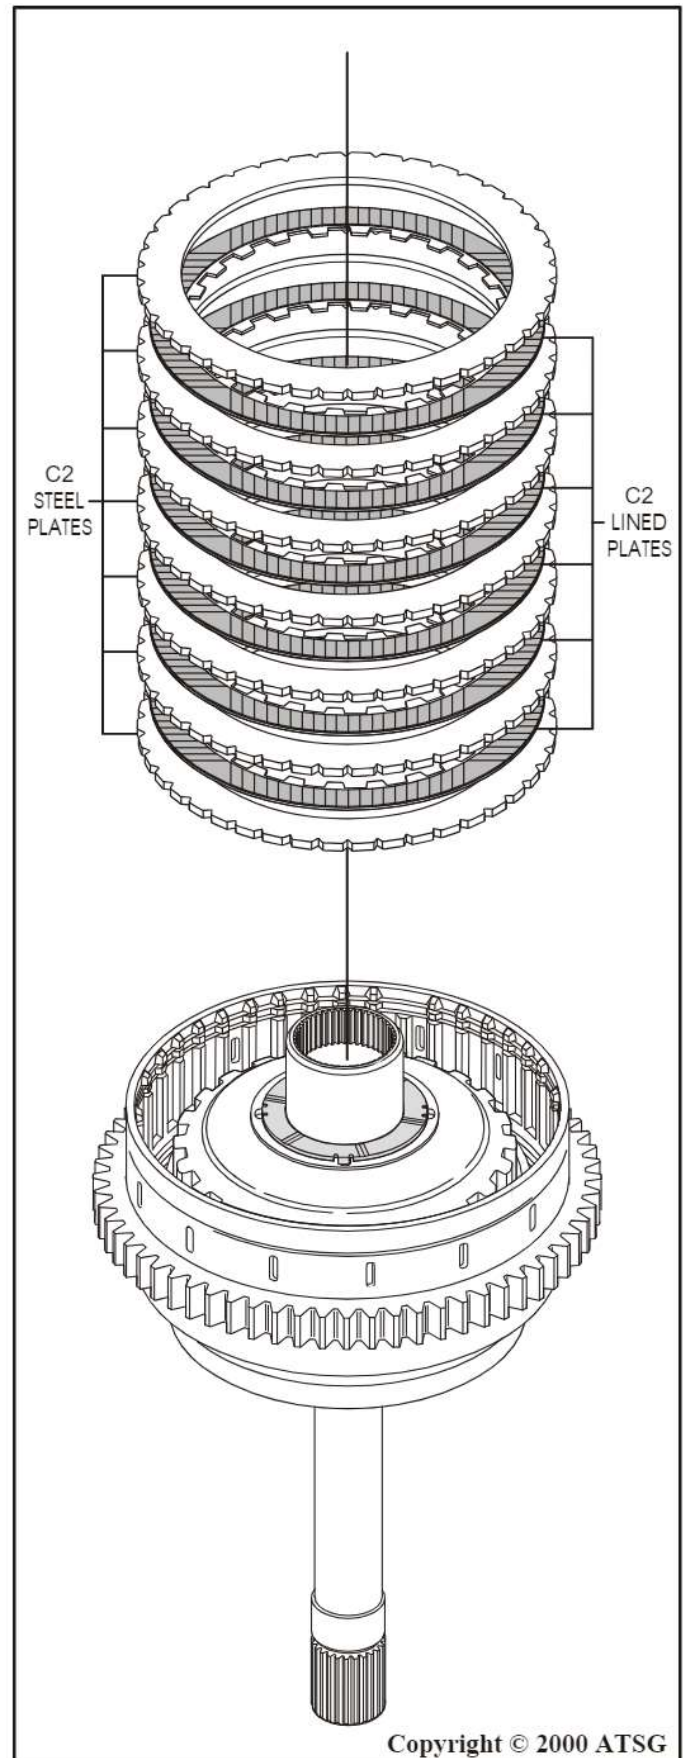

Figure 114
38. Install the C2 clutch pack into the housing, as shown in Figure 114, beginning with a steel plate and alternating with lined plates until you have installed 7 steel plates and 6 lined plates.
Note: In the C2 clutch pack you begin with a steel plate and end with a steel plate as shown in Figure 114.